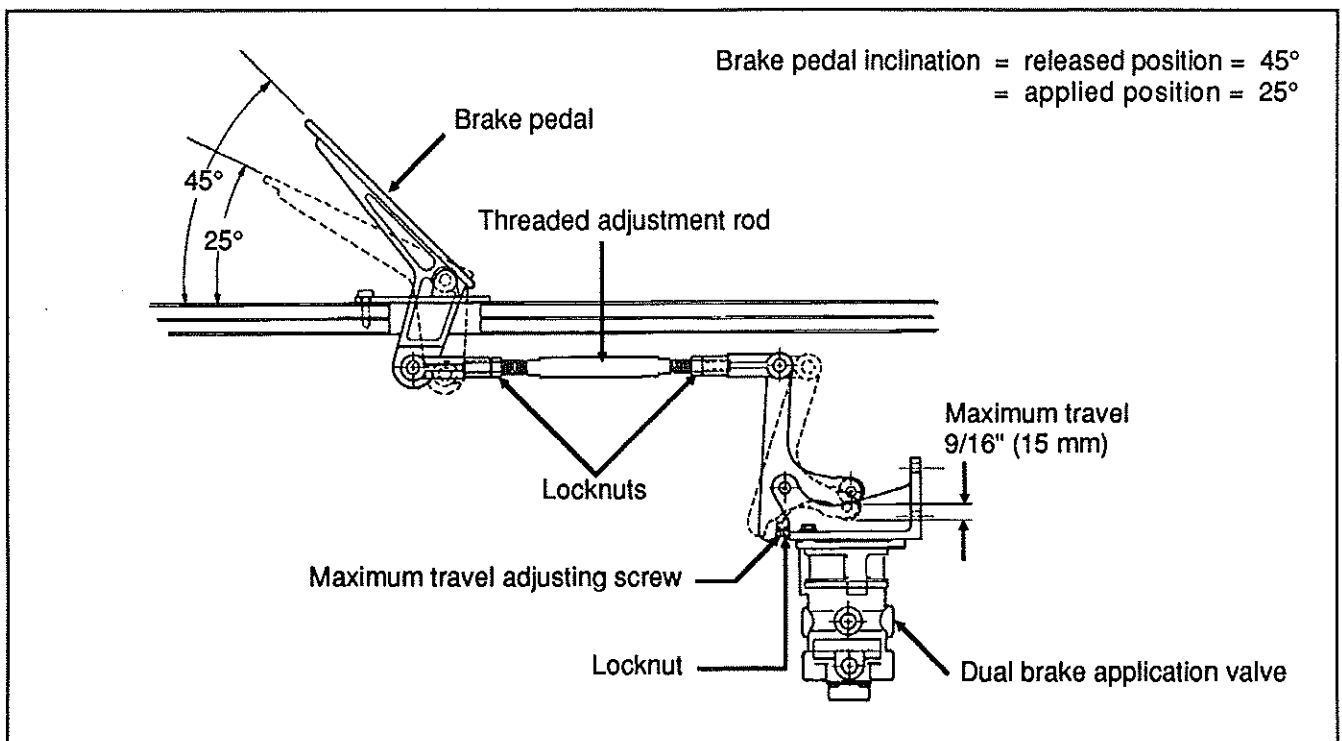

FIG. 2 - Brake pedal adjustment
1. Without the linkage between brake pedal and service brake valve (E-10), adjust the brake pedal maximum travel according to figure 2. When maximum travel ends, pedal resistance will increase abruptly.
2. If maximum travel is incorrect, unscrew the locknut at the bottom of valve pivot (refer to fig. 2) and loosen or tighten the adjusting screw to obtain a maximum travel of 9/16" (15 mm), then tighten the locknut.
3. Replace the linkage, loosen threaded rod locknuts, and screw or unscrew the threaded adjustment rod in order to obtain a brake pedal inclination corresponding to 45° (refer to fig. 2). Tighten threaded rod locknuts.